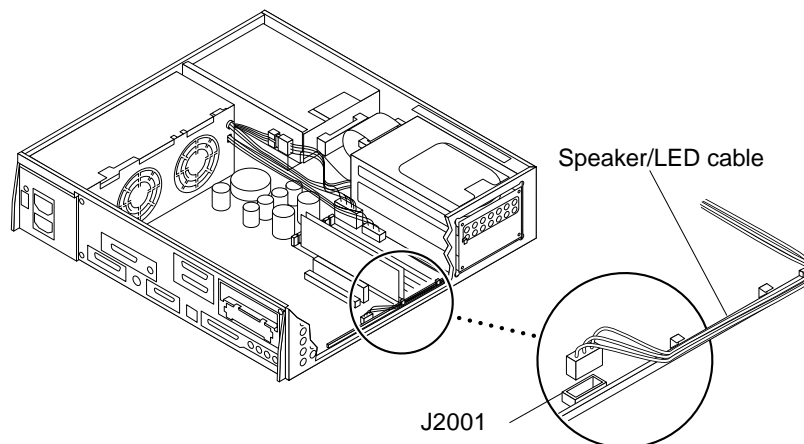

Figure 2-12 LED/Speaker and SCSI Connectors on the System Board
- 3. Disconnect the speaker/LED cable from the system board at J2001 (Figure 2-12).**